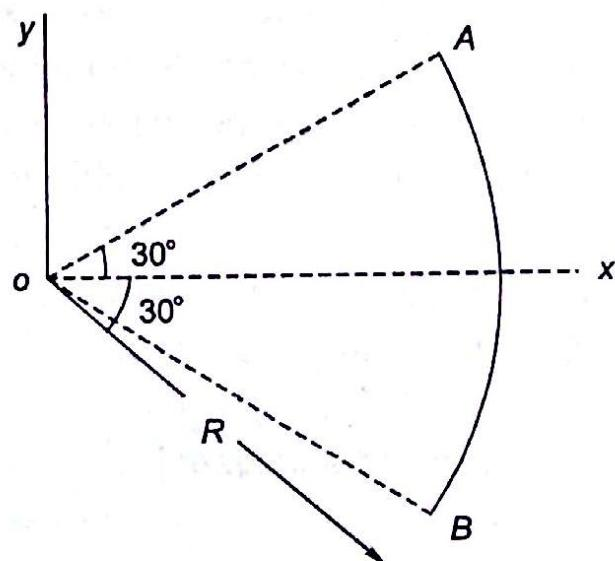

Fig. 5.20
5.7 What is \bar{x} of circular arc A , subtending an angle of 60° at O (Fig. 5.20)?